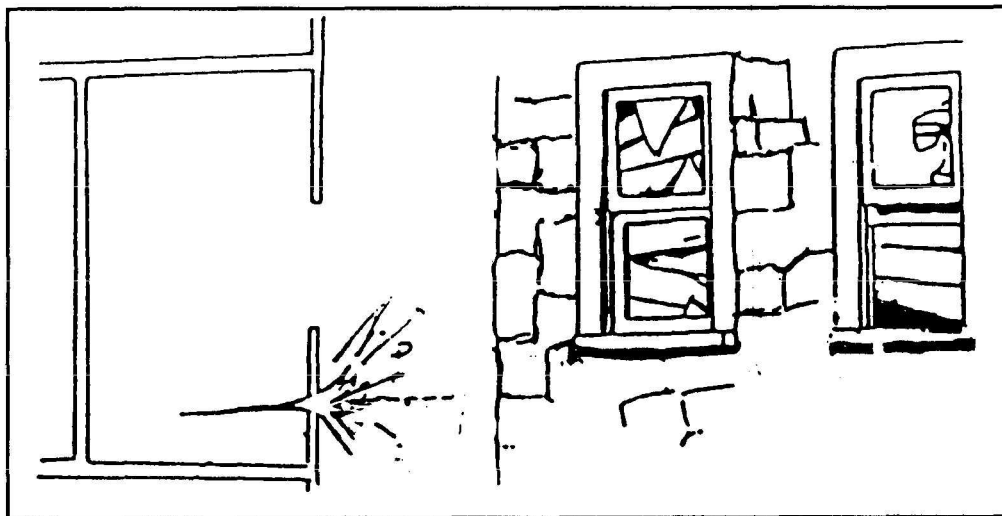

Figure 8-2. Point of aim for a shaped-charge weapon against a masonry structure.
(1) Light and medium recoilless weapons, with the exception of the SMAW and AT8, employ shaped-charge warheads. As a result, the hole they punch in walls is often too small to use as a loophole. The fragmentation and span these weapons produce are limited. Normally, shaped-charge warheads do not neutralize enemy soldiers behind walls unless they are located directly in line with the point of impact.
(2) Against structures, shaped-charge weapons should be aimed about 6 inches below or to the side of a firing aperture (see Figure 8-2). This enhances the probability of killing the enemy behind the wall. A round that passes through a window wastes much of its energy on the back wall. Since these shaped-charge rounds lack the wire wrapping of the 40-mm HEDP, they burst into few fragments and are often ineffective casualty producers.